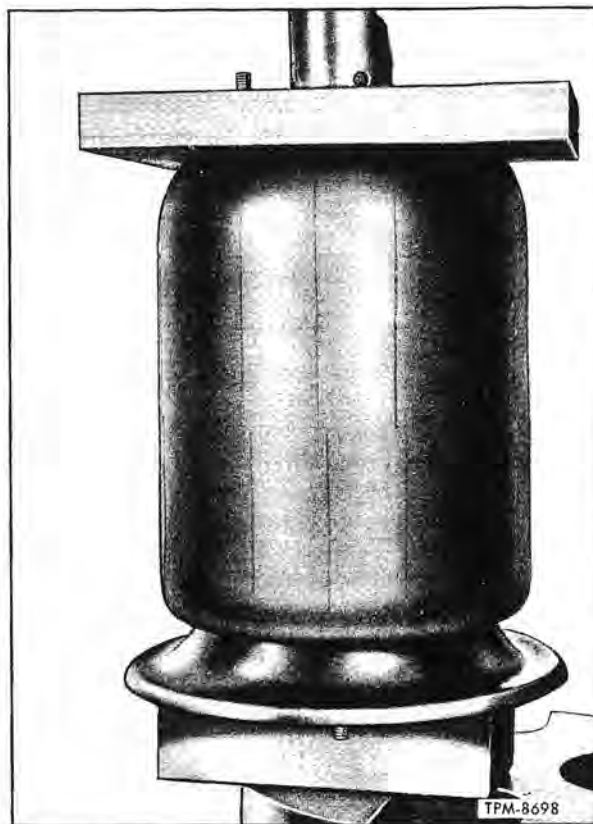

Figure 22—Bellows Loop Rolled over Piston
9. Operate arbor press so as to compress air and cause lower end of bellows to fold over piston. Continue to press until a dimension of approximately 12" overall height is obtained (fig. 22).